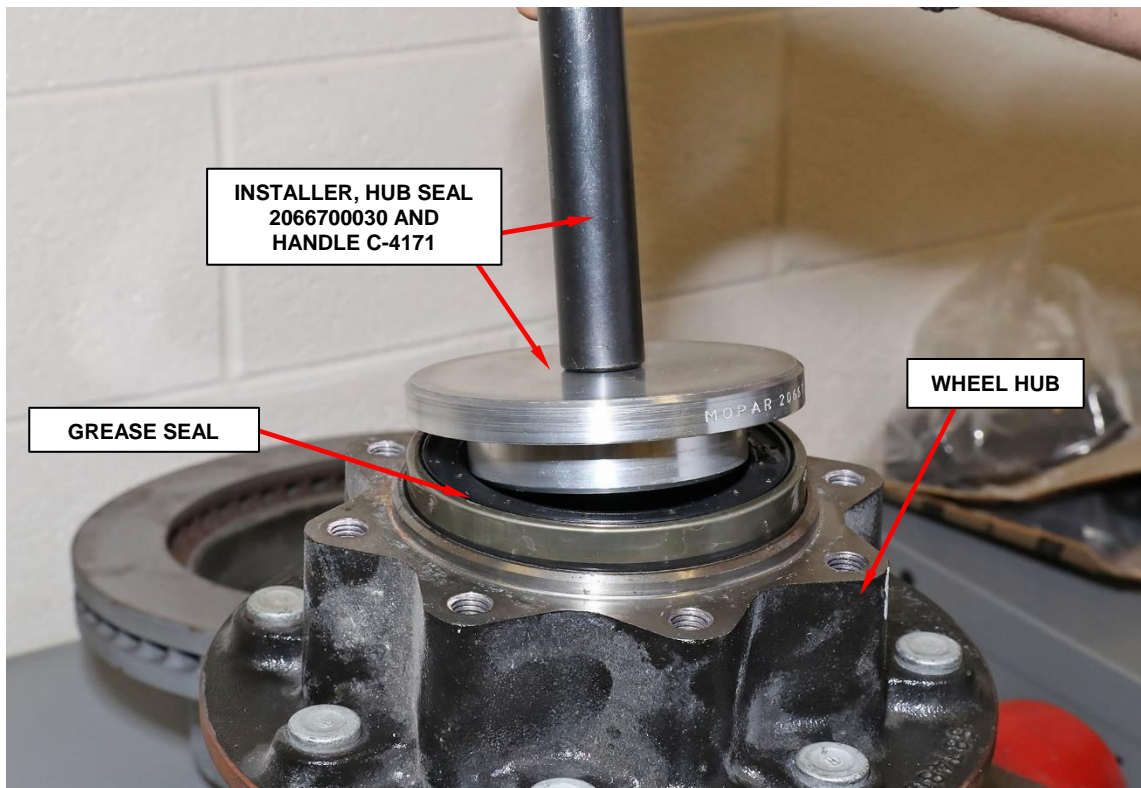

Figure 15 – Grease Seal Installation
22. Install **NEW** grease seal with **Installer, Hub Seal 2066700030** and **Handle C-4171** for 11.5” Ring Gear or **Installer, Hub Seal 8693** for 12.0” Ring Gear (Sales Code DRC = 12.0”) (Sales Code DRX=11.5”) (Figure 15).